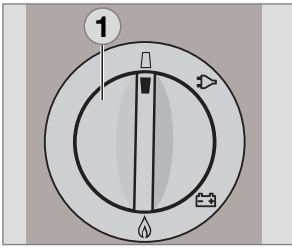

Fig. 33
- Set the energy selector switch **(1)** to position "OFF". The appliance is switched off (Fig. 33).